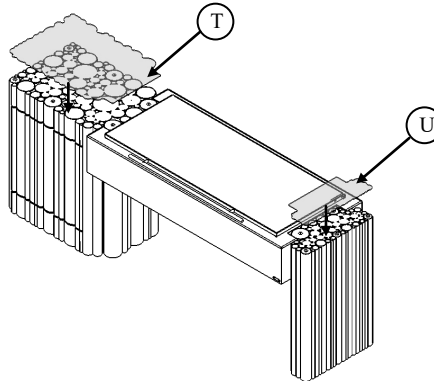

Figure 22:Side Glasses Insert
To place the glasses (T) and (U) on the corresponding sides simply lay them gently. Make sure that they are correctly secured to the existing suction cups (figure 22).